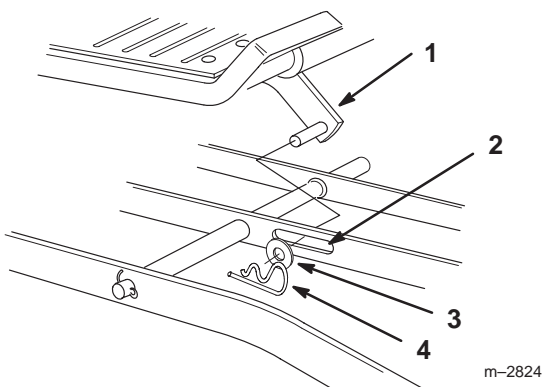

Figure 5
4. Slide the mower under the chassis from the right side and align attachment lift with slot in center level bar (Fig. 5).
6. Place attachment lift pin into slot in center lever bar and secure with a washer (3/4 in.) and a hairpin cotter (Fig. 5).